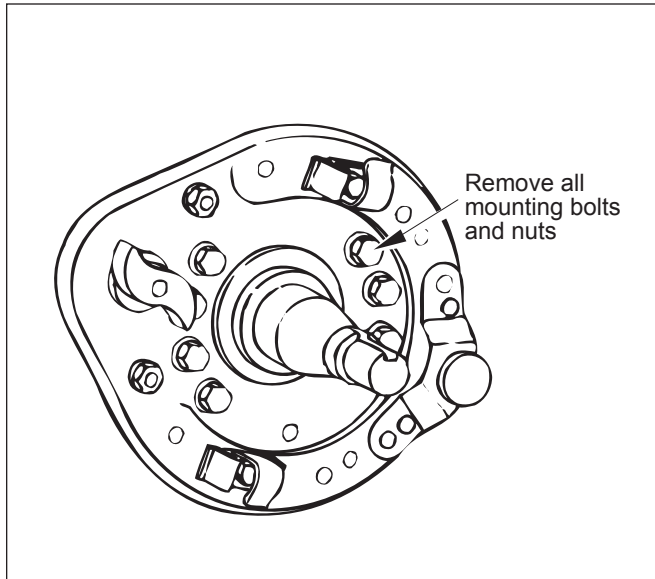

Figure 32. Spider Mounting Hardware Removal
2. Remove spider-to-axle attachment nuts and bolts. Refer to Figure 32.